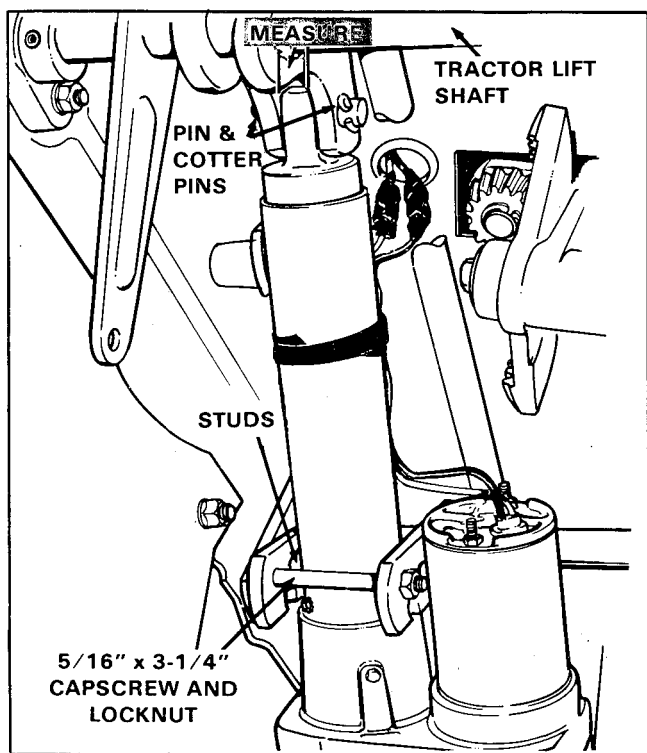
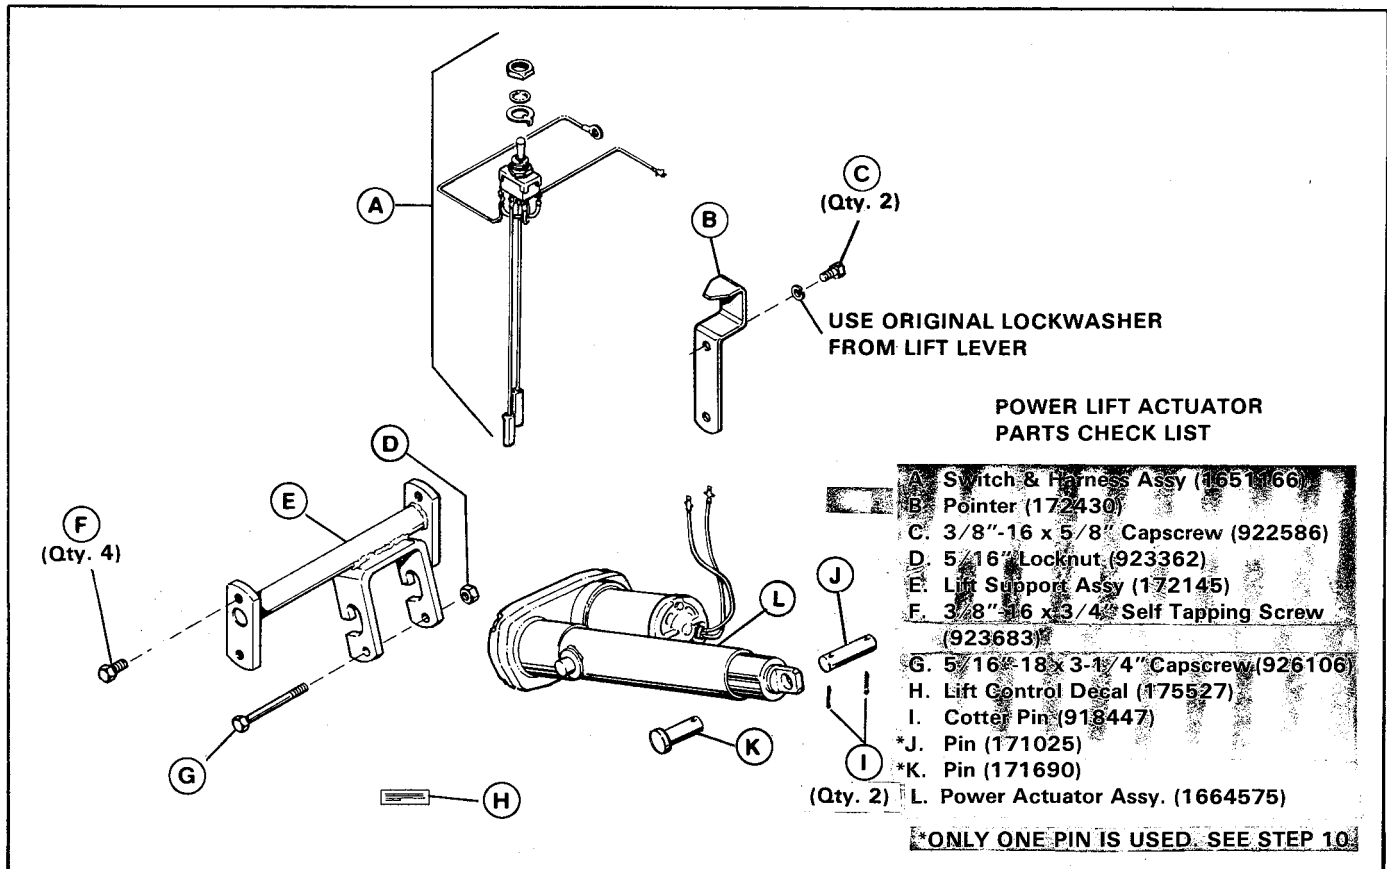

Figure 3.
Figure 6.
8. Slip the studs of power actuator assembly into the curved slots of the support assembly just installed. See figure 3.
10. Two pins (items J & K, figure 6) are included in the kit. Only one will be used. To determine which pin to use, measure the distance between the ears on the tractor lift shaft shown in figure 3. If the distance measures approx. 1-1/8", use pin no. 171690 which has only one hole. If the distance measures approx. 1 1/16", use pin no. 171025 which has a hole in each end. To install pin 171690, perform step "a". To install pin 171025, perform step "b".
- a. Connect the actuator ram to the ears of the tractor lift shaft by inserting the pin from the right-hand side. See figure 3. Install the cotter pin and bend the legs fully.
- b. Connect actuator ram to the ears of the tractor lift shaft with pin and two cotter pins. See figure 3.
12. Tape wires to actuator cylinder so they will not tangle in any mechanism. See figure 3.